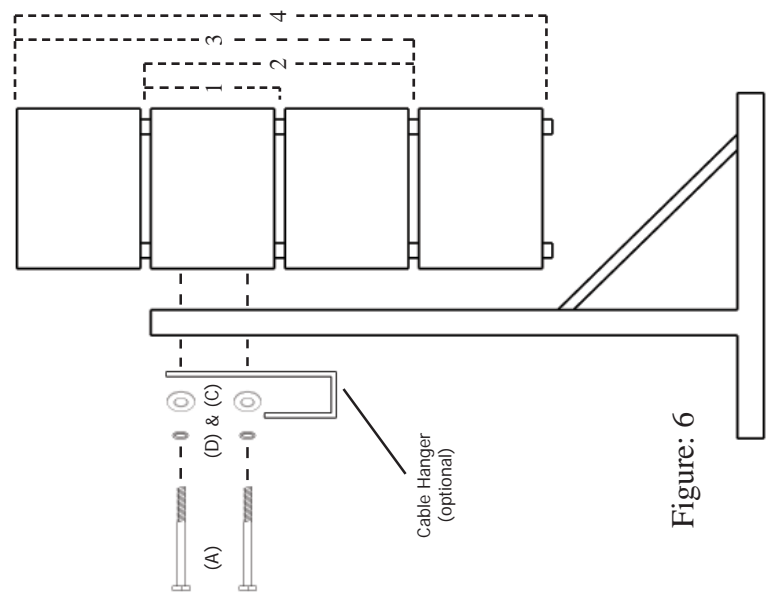

Figure: 6
7.) Standard Mounting - Mount system to the stand using the hardware shown in Figure: 6. Optional cable hanger should also be mounted if desired. Stand will support systems of up to 60 zones.